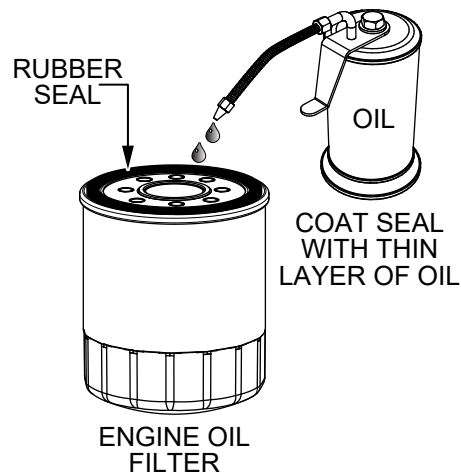

Figure 61. Oil Filter
- Coat the seal of the new oil filter (Figure 61) with clean engine oil. Install the new filter by hand until it contacts the engine sealing surface, then tighten it another 1/2 turn. **DO NOT** use a strap wrench or similar tool to tighten the filter.